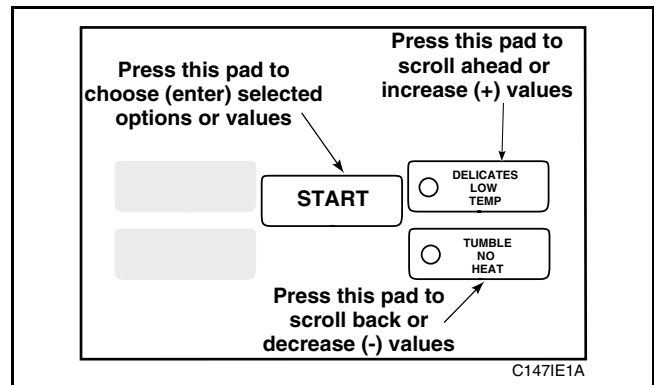

Figure 30
5. Press the LOW TEMP (+) pad or the NO HEAT (-) pad to increase or decrease the current number of minutes to the desired number of minutes, *Figure 30*.